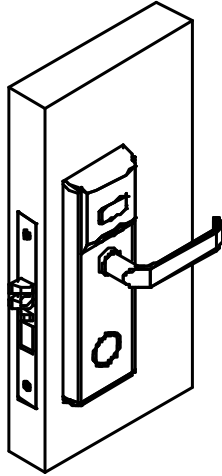

Figure 13
13) After the connection done, put the plug and wire into the door's round hole, then make sure the foreplat is adjoined to door. Show as Figure 13.